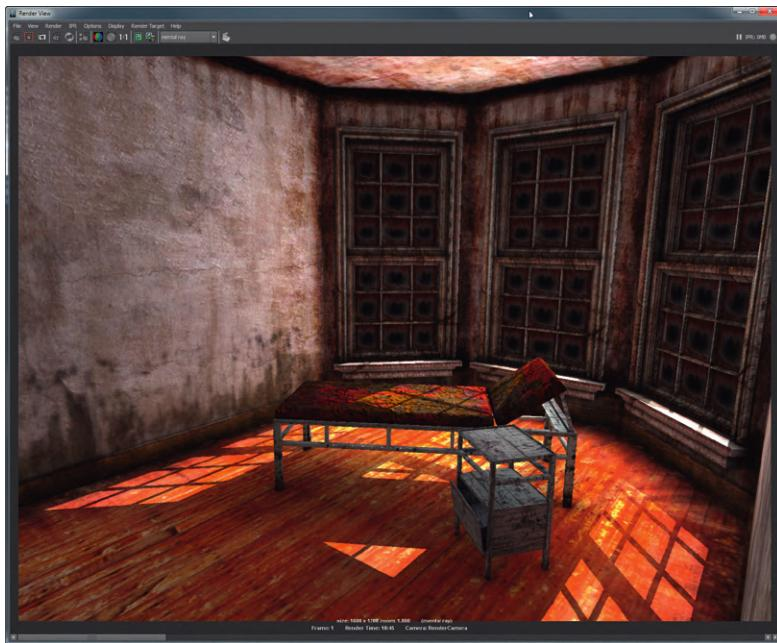

FIG 7.30 Rendering using Mental Ray, Final Gather, and a very low intensity Ambient Light to give everything an initial illumination.
Step 12: Add an Ambient Light. Do this with Create > Lights > Ambient Light. Move the Ambient Light into the center of the room and change the Intensity to 0.25. Render (Fig. 7.30).